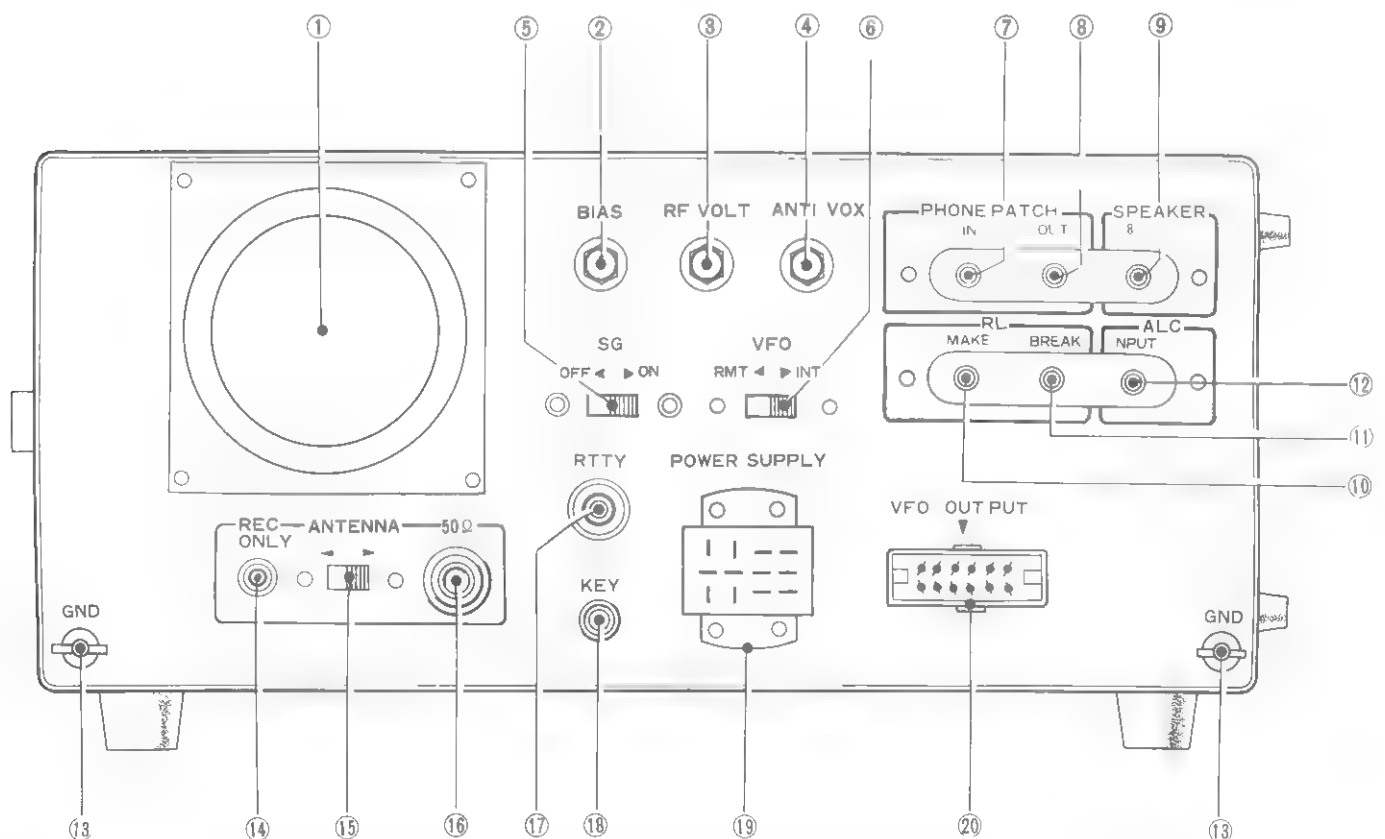

FIGURE 7. TS-900 Rear Panel Controls
3.3 REAR PANEL CONTROLS (See Figure 7)
COOLING FAN (1 on Figure 7)
BIAS CONTROL (2 on Figure 7)
RF VOLT CONTROL (3 on Figure 7)
ANTI VOX CONTROL (4 on Figure 7)
SG SWITCH (5 on Figure 7)
VFO SWITCH (6 on Figure 7)
PHONE PATCH IN JACK (7 on Figure 7)
PHONE PATCH OUT JACK (8 on Figure 7)
SPEAKER JACK (9 on Figure 7)
RL MAKE JACK (10 on Figure 7)
RL BREAK JACK (11 on Figure 7)
ALC INPUT JACK (12 on Figure 7)
GND (Ground) LUGS (13 on Figure 7)
REC ONLY JACK (14 on Figure 7)
ANTENNA SWITCH (15 on Figure 7)
ANTENNA 50 ohm CONNECTOR (16 on Figure 7)
RTTY JACK (17 on Figure 7)
KEY JACK (18 on Figure 7)
POWER SUPPLY CONNECTOR (19 on Figure 7)
VFO OUTPUT CONNECTOR (20 on Figure 7)